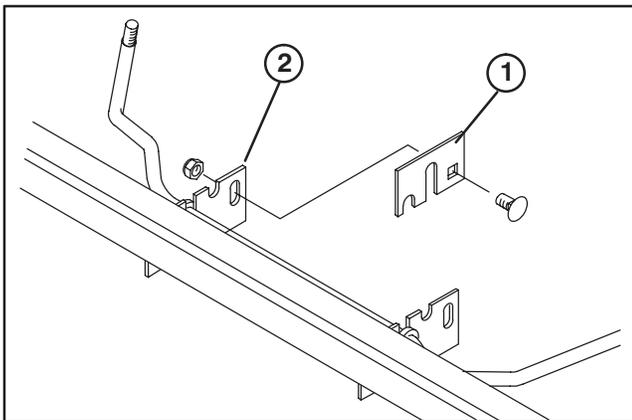

Figure 3
8. Remove carriage bolts and locknuts securing lift lever hold down brackets to control support brackets (Fig. 3).